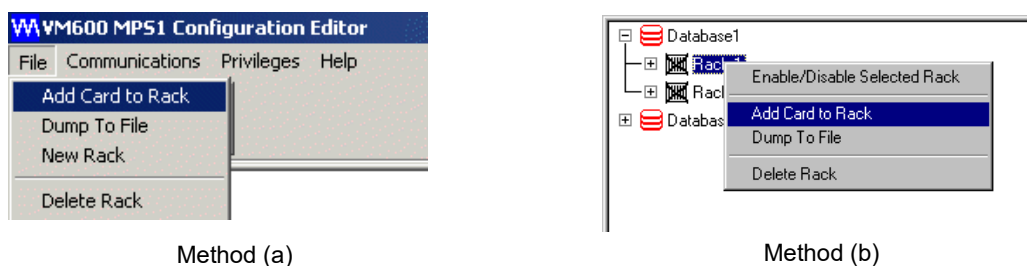

Figure 5-7: Adding a card to a rack
- Choose the **Add Card to Rack** command from the **File** drop-down menu as shown in Figure 5-7 (a).
- Alternatively, highlight the rack name in the configuration tree structure using the left mouse button. Then, right-click to obtain the shortcut menu shown in Figure 5-7 (b). Choose the **Add Card to Rack** command.